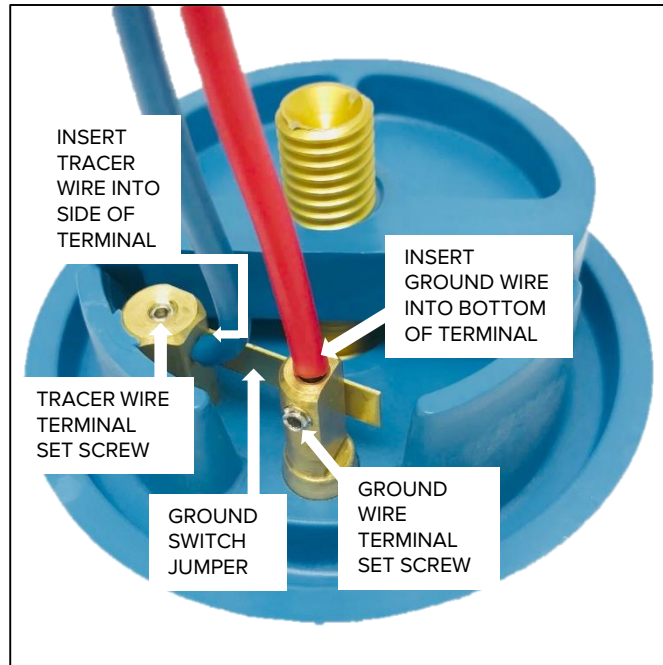

Fig. 2
7. Use 1/16 Allen wrench to slightly loosen Tracer Wire Terminal Set Screw; Insert stripped and gelled tracer wire into hole on side of Tracer Wire Terminal; Tighten Set Screw until firm contact is made with wire (Fig. 2)
8. Use 1/16 Allen wrench to slightly loosen Ground Wire Terminal Set Screw; Insert stripped and gelled ground wire into hole on bottom of Ground Wire Terminal; Tighten Set Screw until firm contact is made with wire (Fig. 2)